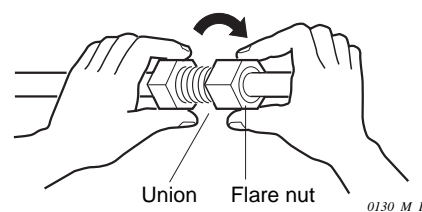

Fig. 10-5
- (3) For proper connection, align the union tube and flare tube with each other, then screw in the flare nut lightly at first to obtain a smooth match. (Fig. 10-5)